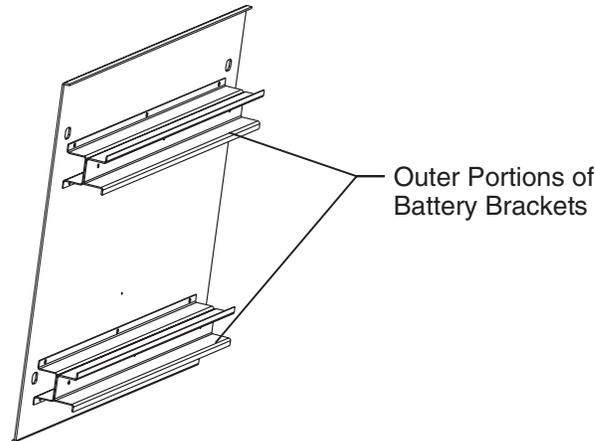

Figure 4-8: Battery Brackets on Battery Compartment Cover
15. Remove the outer portions of the battery brackets from the battery compartment access cover (Figure 4-8). These are not required for use with 12IR125 batteries.